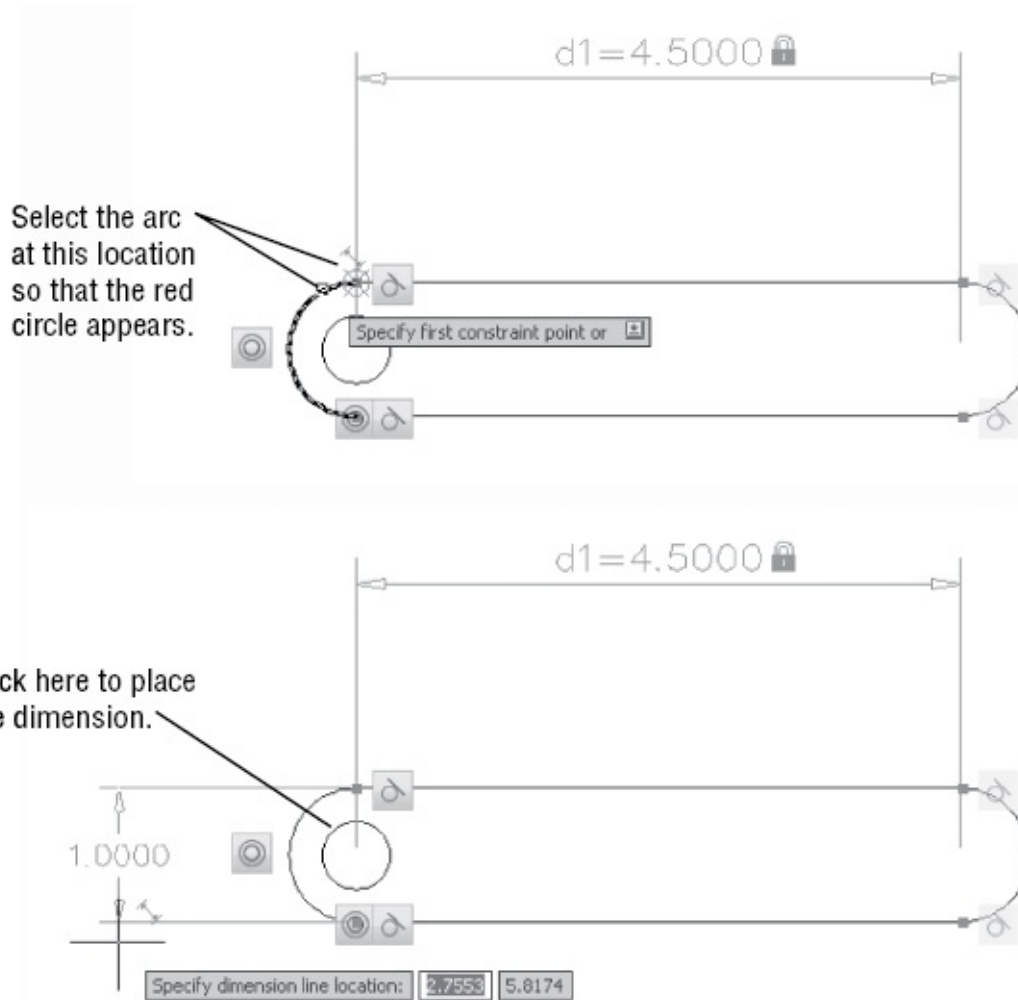

FIGURE 16.14 Adding a dimensional constraint to the arc
2. Select the top endpoint of the arc on the left side (top of Figure 16.14). Do this by first hovering over the arc near the endpoint. When you see the endpoint marker, click the mouse. If the constraint icons are in the way, you can zoom in to the drawing to see the marker.
4. Click a point to the left of the arc to place the dimension (bottom of Figure 16.14).